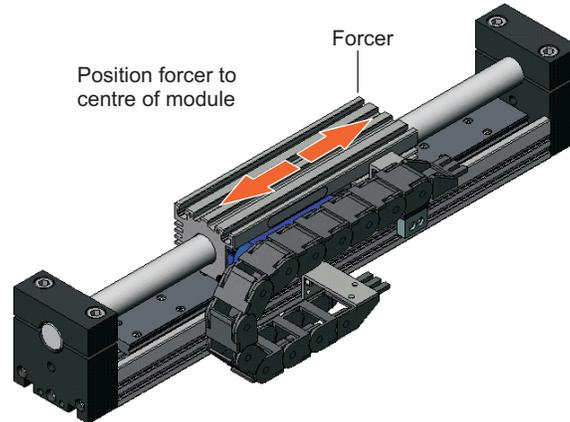

Figure 3.12
- Move the forcer to the centre of the module, Figure 3.12.